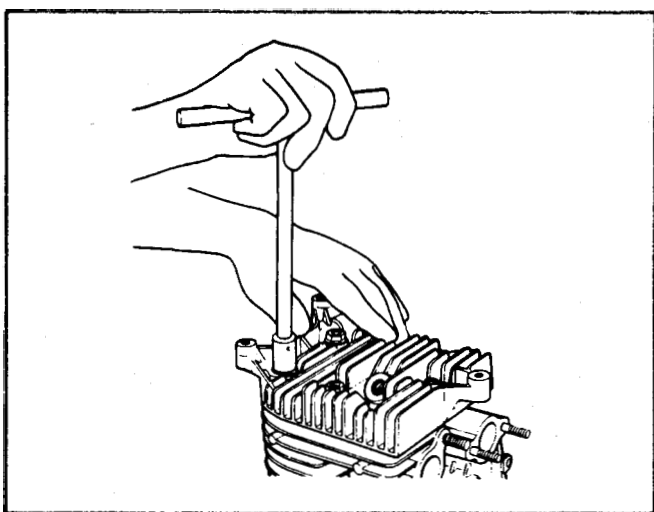

Figure 74
32. Remove the cylinder head. See Figure 74.